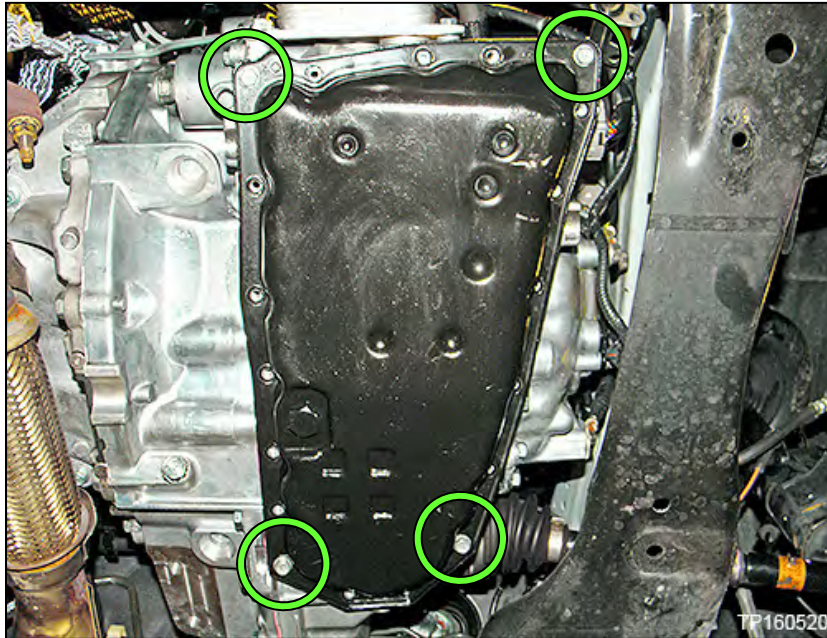

Figure 24
9. Temporarily install the oil pan gasket and oil pan with four oil pan bolts at the corners of the oil pan, hand tight (Figure 24).